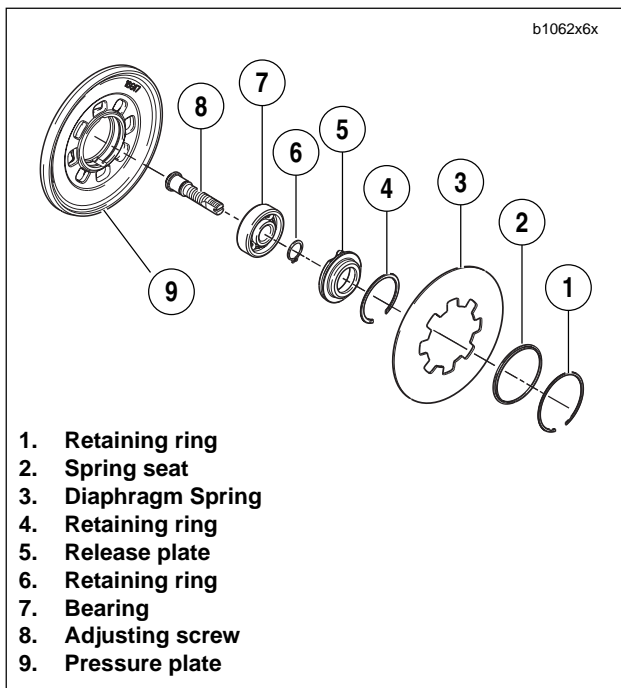

Figure 6-12. Adjusting Screw Assembly
1. See Figure 6-12. Remove adjusting screw assembly.
- a. Remove and discard small retaining ring (6).
- b. Separate the adjusting screw (8) from the bearing (7) and release plate (5).
- c. Remove bearing (7) from release plate (5).